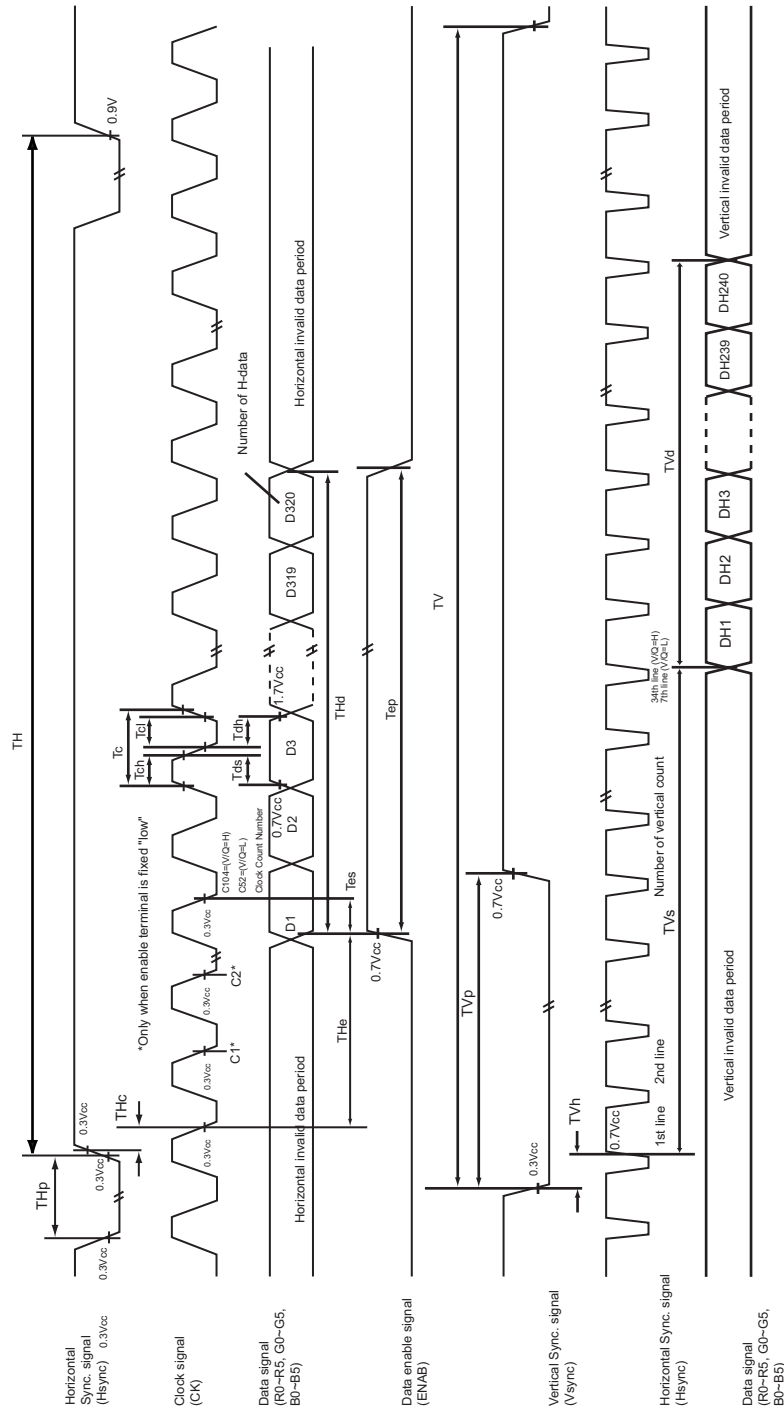

Fig 8. Input signal waveforms
1. When ENAB is fixed at "V/Q=Low", the display starts from the data of C52 (clock) as shown in Fig. 8.
2. When ENAB is fixed at "V/Q=High", the display starts from the data of C104 (clock) as shown in Fig 8.